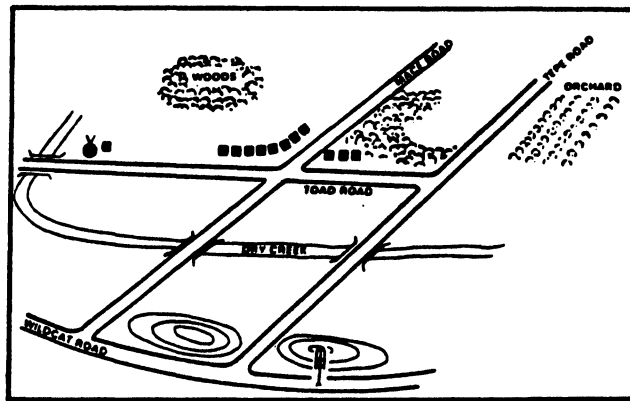

Fig 6-3. Sector sketch.
1. In the lower center of your range card, indicate your firing position by drawing the symbol of your TOW. Then, draw and label your sector sketch. Draw roads, bridges, buildings, streams, hills, woods, etc. Be as accurate as you can (fig 6-3).